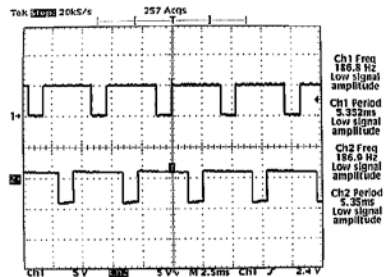

Figure 2.
4. Verify channel 1 and 2 oscillator scan signals (shown in Figure 2) on Pins 2 and 3 of U7 respectively.